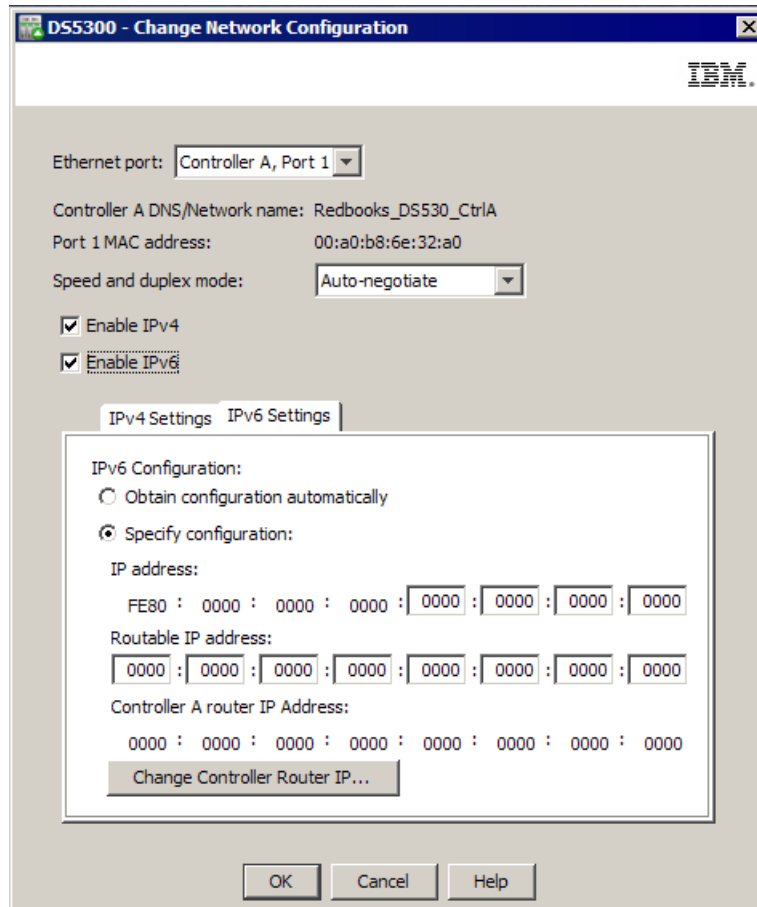

Figure 3-27 IPv6 parameter setting tab
- m. With the IPv6 option enabled, IPv6 is now supported and the IPv6 Settings tab shows the IPv6 configuration settings as shown in Figure 3-27. If this option is not selected, all of the configuration settings on the IPv6 Settings tab are disabled.